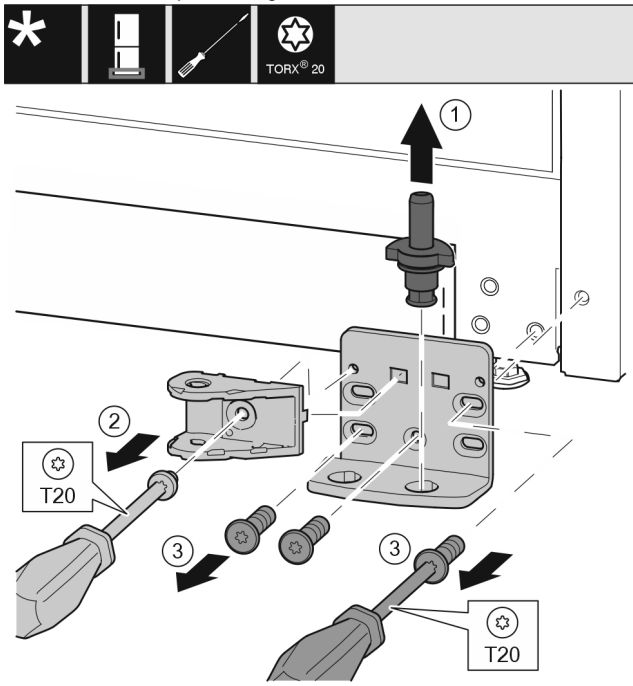

Fig. 45 *
- Pull the bearing bolt Fig. 45 (1) out upwards completely.*
- Use screwdriver to unscrew the screw Fig. 45 (2) and remove the closing damper connection.*
- Use screwdriver to unscrew the screws Fig. 45 (3) and remove the swap bearing block.*